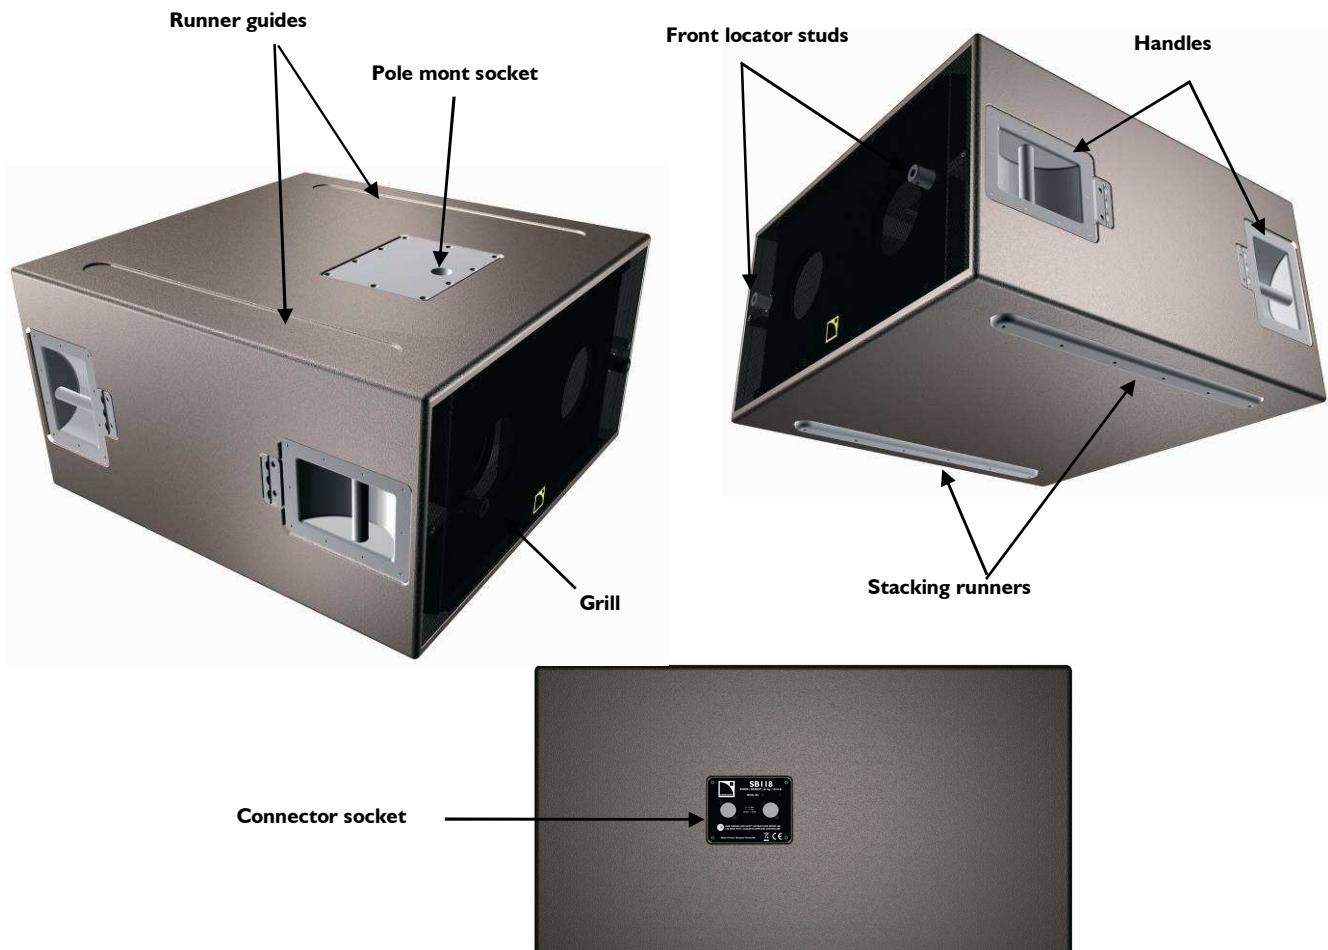

Figure 3: The SB118 subwoofer enclosure
The optional **L-ACOUSTICS® SB118PLA** dolly board (see Figure 2) can be secured to the SB118 enclosure by inserting the two captive dolly board pins in the front locator studs (see Figure 3) thus allowing easy transportation and protection of the enclosure.
- Stacking a vertical array of up to 8 SB118 enclosures using the fully integrated stacking runners and runner guides (see Figure 3).
- Mounting an XT enclosure using the built-in 35 mm/1.4 inch pole mount socket (see Figure 3) to easily create a compact FOH system.